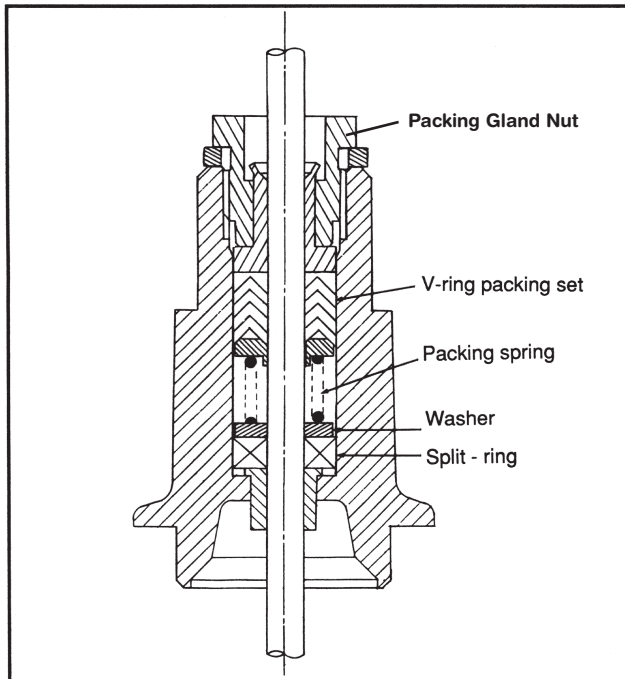

Figure 1. V-Ring and Split Ring Packing
7. The packing parts must be installed in the exact order shown in Figure 1. Place split ring (split ring must be lubricated), washer, and spring over the stem and gently push each piece into the packing chamber.
10. With the valve stem held in the closed position, carefully place a packing ring, the packing spacer, and the remaining three packing rings over the stem in the order shown (Figure 1). Individually tap each packing ring into the bonnet as far as possible.